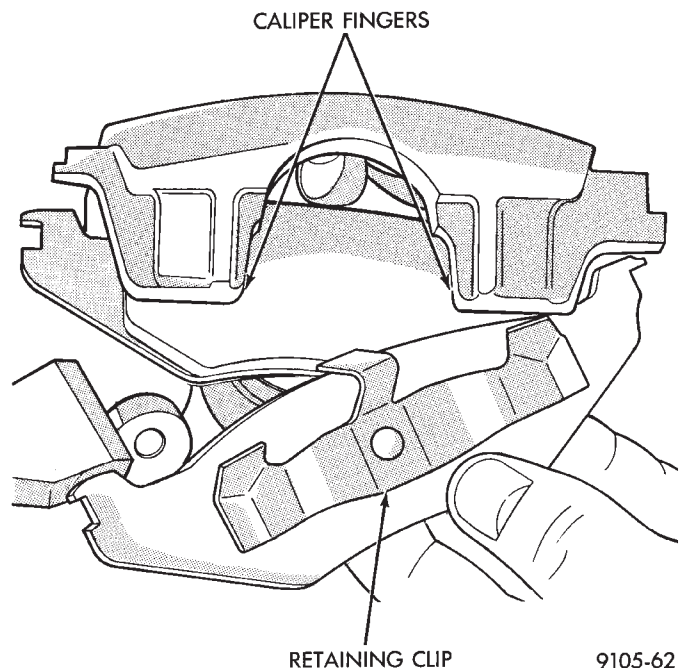

Fig. 7 Installing Outboard Shoe
(3) Install outboard shoe by sliding retaining clip over caliper fingers. Be sure the brake shoe is installed on the caliper, so the retaining clip is past the raised area on the caliper fingers (Fig. 7).